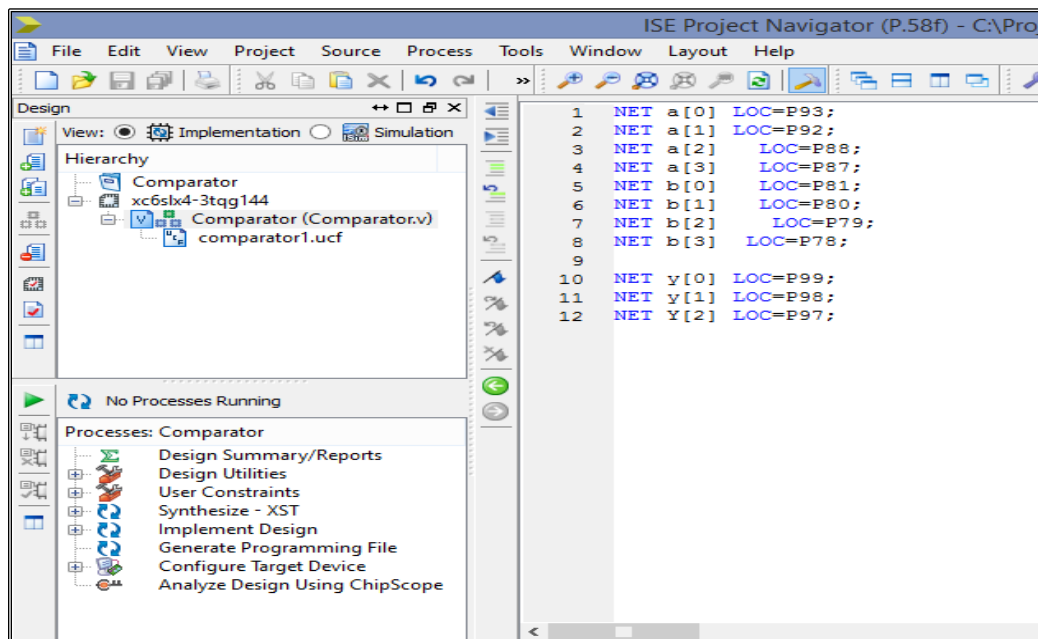

Fig 7.12: UCF declaration
18. A blank window will appear in a new tab having the design’s name as “Comparator1.ucf” . Add the constraints for each input port and output port (Fig 7.12).